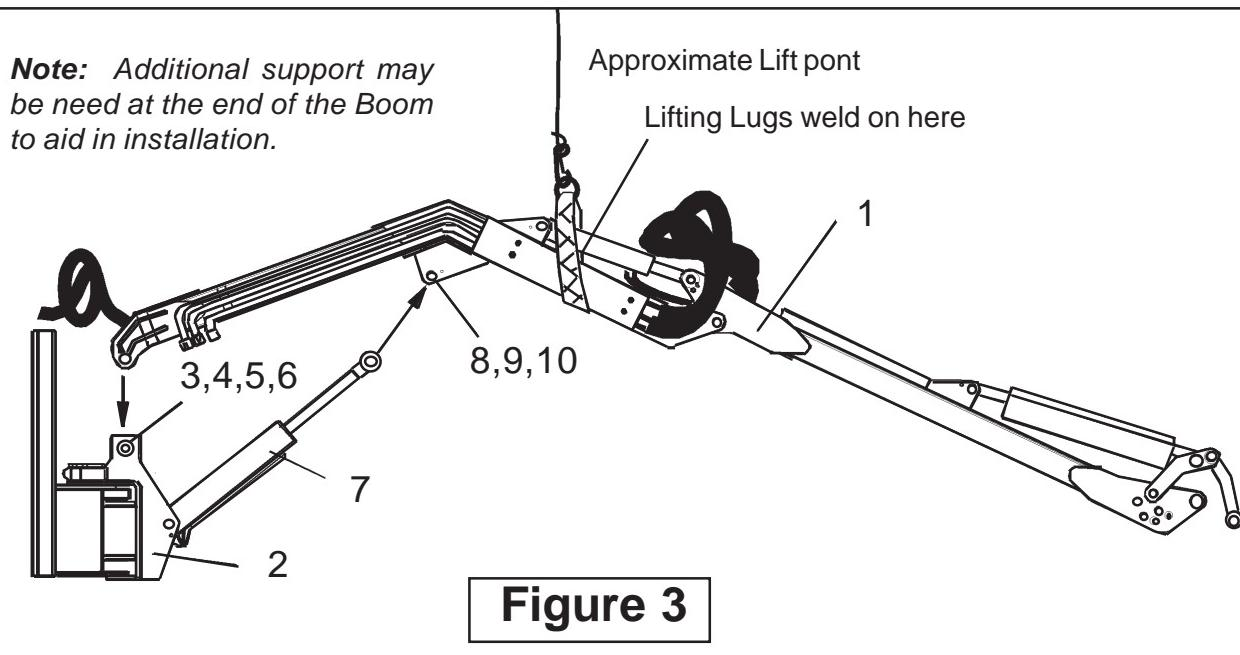

Figure 3
2. Pull the Lift Cylinder out to its full stroke, to aid in the installation of the Lift arm (**See Figure 3**). When Pulling Cylinder Out, attach a Hose to the Rod end and lay the Hose in a drain pan. This will catch any Oil expelled when Cylinder is pulled out.
3. With a hoist raise the Boom Arm (1) and lower onto the King Post (2). Align the Boom Arm and King Post with the Lift Hinge Point. Insert Main Pin Bolt (3) into Boom Weldment and Turning Arm. Attach Lockwasher (4), Washer (5) and Bolt (6) and tighten (also see Parts Section on the Boom Assembly) (**See Figure 3, 4 & 5**)
4. Attach the Rod end of the Lift Cylinder (7) to the Lift Section with Pin (8), Bolt (9) and Nut (10) (also see Parts Section on the Boom Assembly) (**See Figure 3**).
6. Leave Boom Supported by Hoist until Boom is connected to King Post and all cylinders attached. (**See Figure 3**). The Boom will have to be lifted again when Head is installed. Do not lift Boom with Hoist if the Cylinder hoses are open, the Cylinders are built with the internal components covered with Oil. If boom is raised by hoist while these hoses are disconnected oil may be forced out of collapsing end of cylinder.